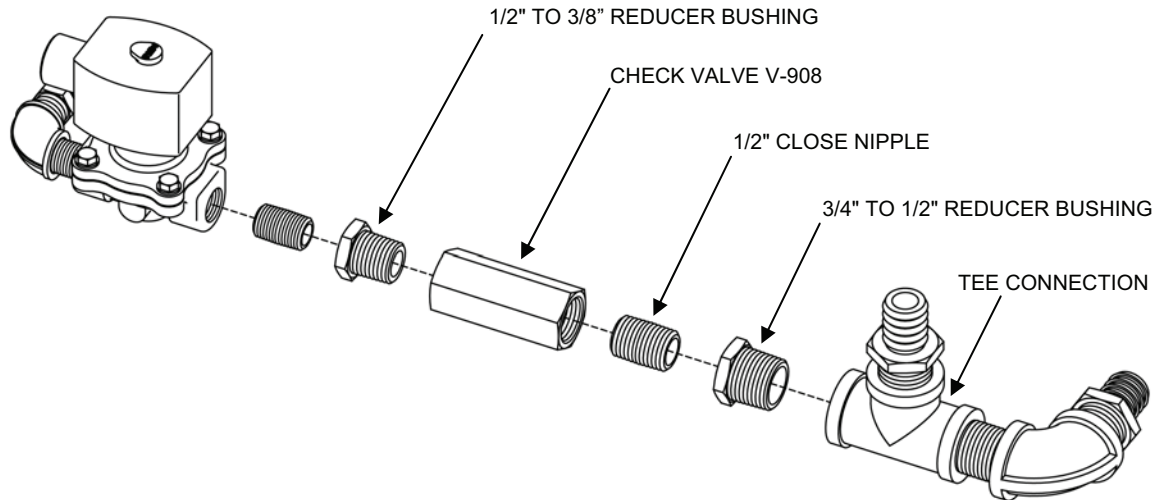

Figure 9. Check Valve V-908.
3. Remove Check Valve V-908 from the air system section 4 assembly as follows (see Figure 9):
- c. Thread the close nipple on the output side of the check valve into the other reducer bushing. Do not over-tighten. Refer to Figure 9 for correct positioning of the Air System Section 4 assembly components.